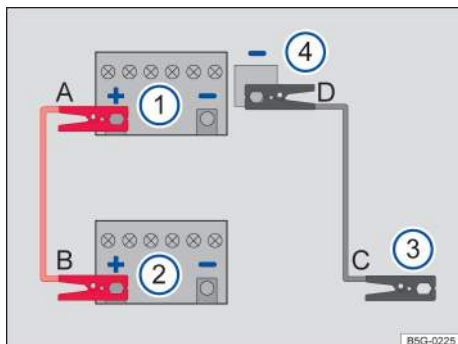

Fig. 161 Diagram for attaching the jumper cables: Dead battery ① and booster battery ②.
Key to **fig. 161**:
which follow the letters shown in the illustration → **fig. 161 A – B – C – D**.
3. Attach one end of the **red** jumper cable **A** to the **positive battery terminal** → **fig. 161** on the dead battery: ① → .
4. Attach the other end of the **red** jumper cable **B** to the **positive battery terminal** → **fig. 161** on the good battery (booster battery): ②.
5. Attach one end of the **black** jumper cable **C** to the **negative jump-start terminal** of the vehicle **providing** assistance: → **fig. 161** ③ (→ page 234, *Jump-start terminal*), or if that is not available, to a bare metal part of the vehicle **providing** assistance. This part should be connected directly to the engine block.
6. Attach the other end of the **black** jumper cable **D** to the **negative jump-start terminal** of the vehicle **receiving** assistance → **fig. 161** ④ (→ page 234, *Jump-start terminal*), or if that is not available, to a bare metal part of the vehicle **receiving** assistance. This part should be connected directly to the engine block. Attach the clamp to a point that is as far away as possible from the dead battery ① → .